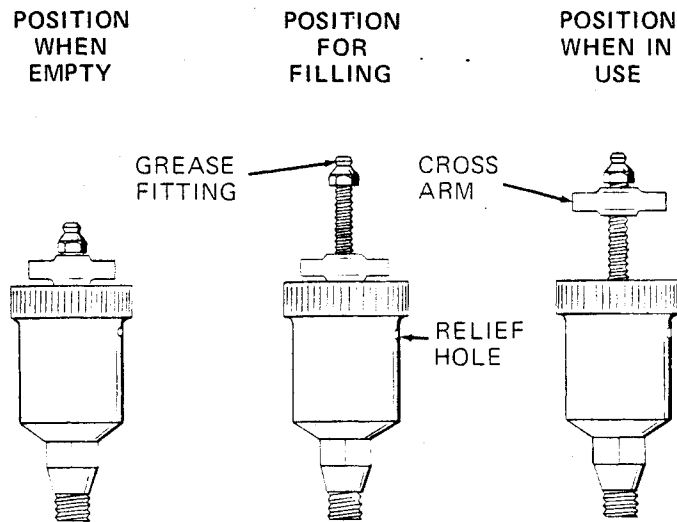

Figure 3. Automatic Lubricating Grease Cup
Before removing the seal assembly, turn the cross arm on the seal grease cup (36) clockwise until it rests against the cover (see figure 3). This will prevent the grease in the cup from escaping after the seal is removed.
Before starting the pump, fill the grease cup through the grease fitting with a good grade of No. 2 pressure gun grease until grease escapes from the relief hole. Turn the grease cup arm counterclockwise until it is at the top of the stem; this will release the spring to apply grease to the seal (see figure 3).